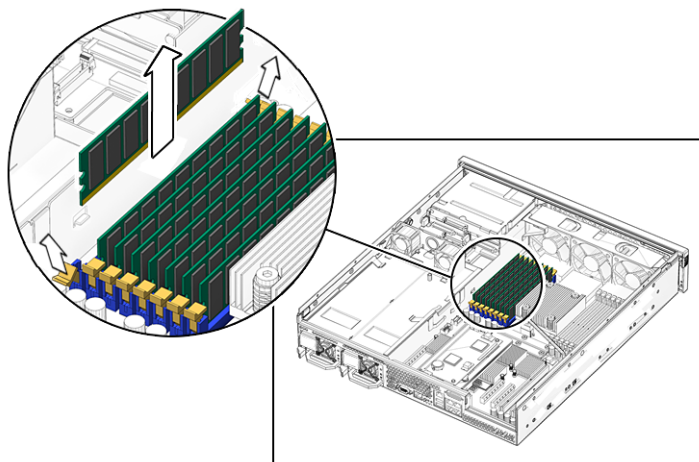

FIGURE 4-11 Ejecting the DIMM
3. Locate which DIMM is to be removed and press the ejector levers open, removing the DIMM (FIGURE 4-11).